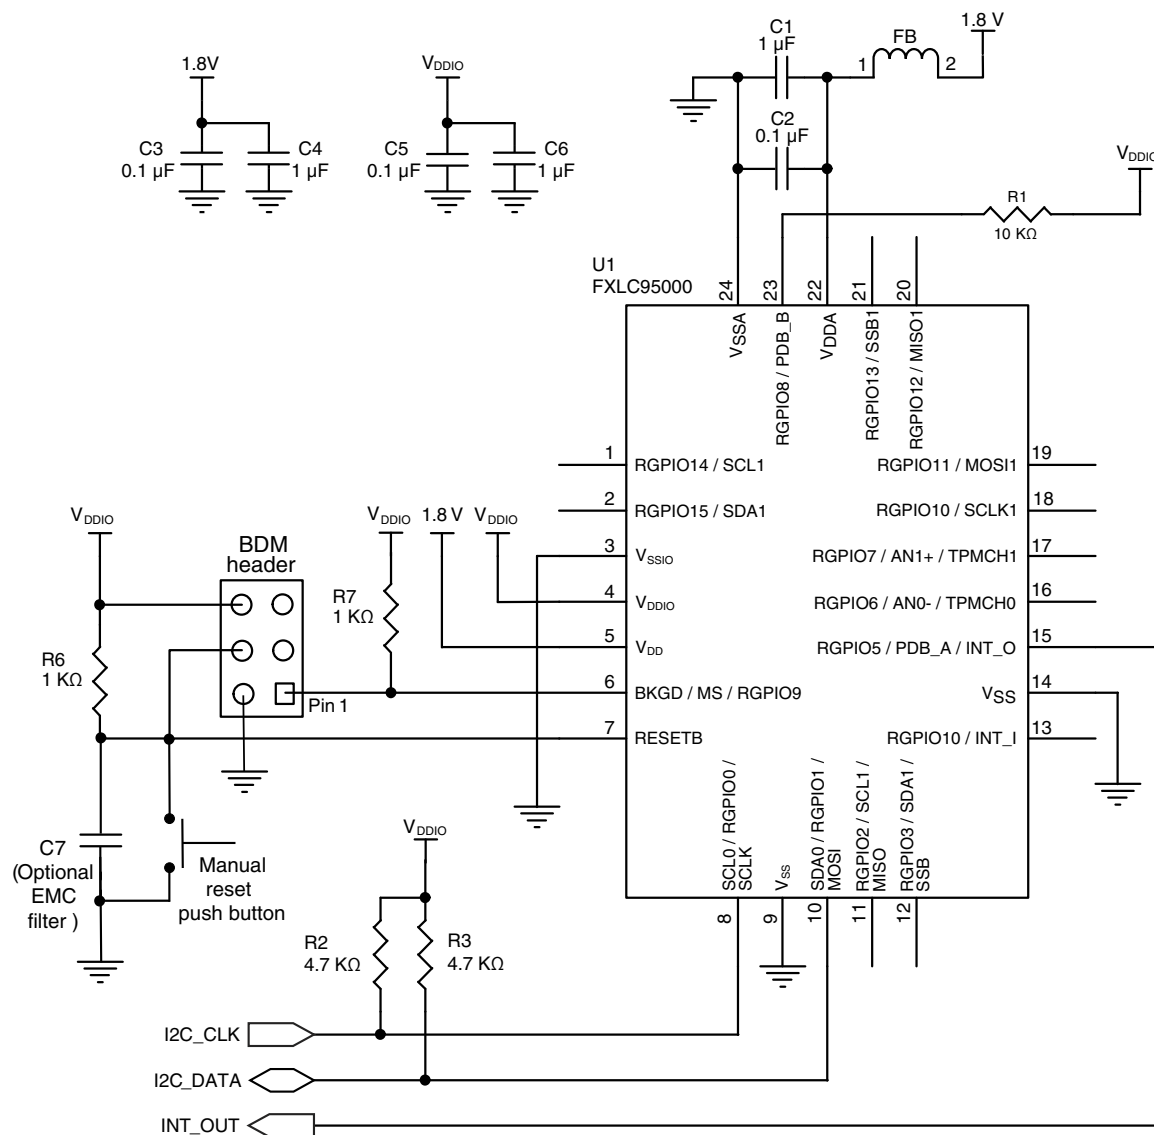

Figure 3. FXLC95000CL as a slave (I²C interface)
- Select resistors R2 and R3 in Figure 3 to match requirements stated in the I²C standard. An example value of 4.7k Ω is appropriate for the configuration shown.
I²C pullup resistors, a ferrite bead, and a few bypass capacitors are all that are required to attach this device to a host platform. The basic configuration of the I²C interface is shown in Figure 3.